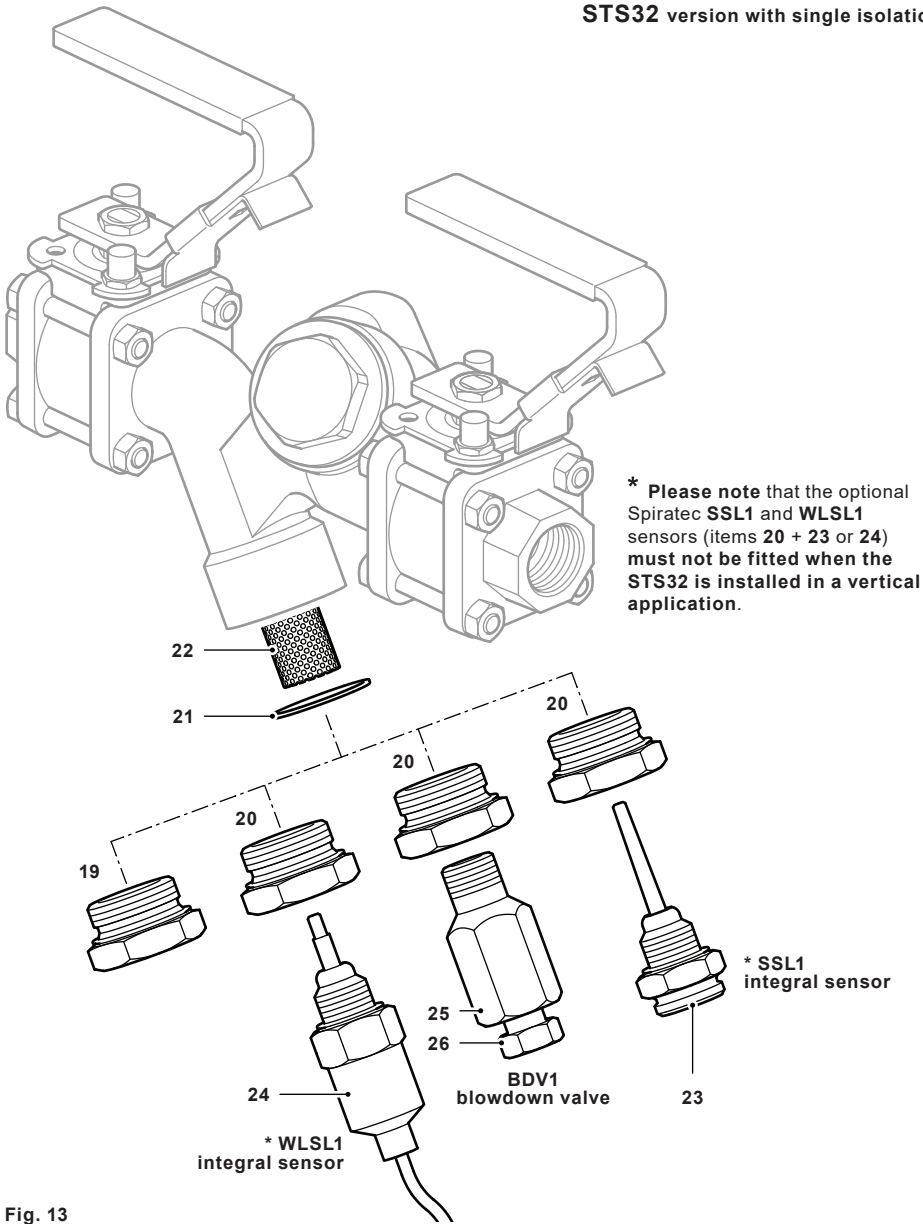

Fig. 13
5.8 How to fit a conversion kit (see Figures 13 and 14)